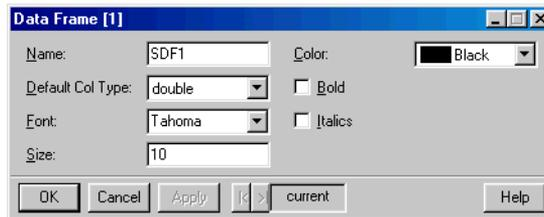

Figure 2.4: The *Data Frame* dialog.
1. Double-click the top shaded cell in the upper left-hand corner of the **Data** window. The **Data Frame** dialog opens, as shown in Figure 2.4.